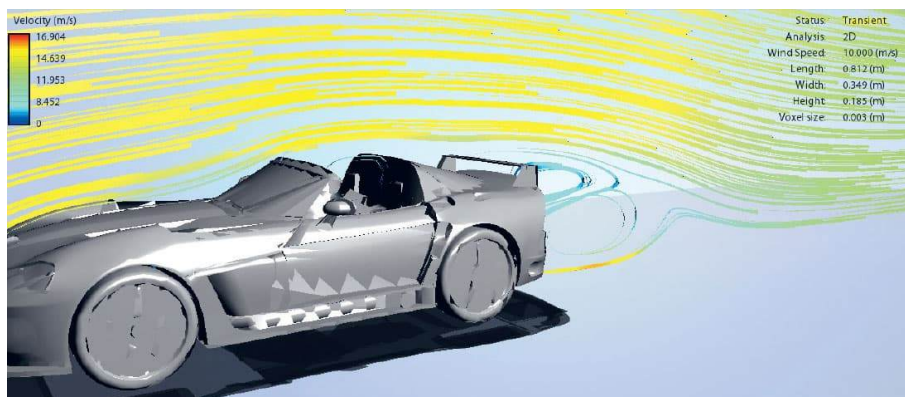

FIG. 6: A windflow simulation over a car and rear wing.
6. Optional: Test the efficiency of the wing design in keeping downforce on the car. Download a copy of the .STL file and load it into the Autodesk Flow Design software, which will simulate liquid/air flowing through the design. Adjust the source of the flow to line up with car wing. Start the flow simulation and observe how the flow changes due to the wing. Look for blue streaks; this indicates that air flow is slower at that point. We want slower air at the top of the wing to maximize downforce (fig. 6).